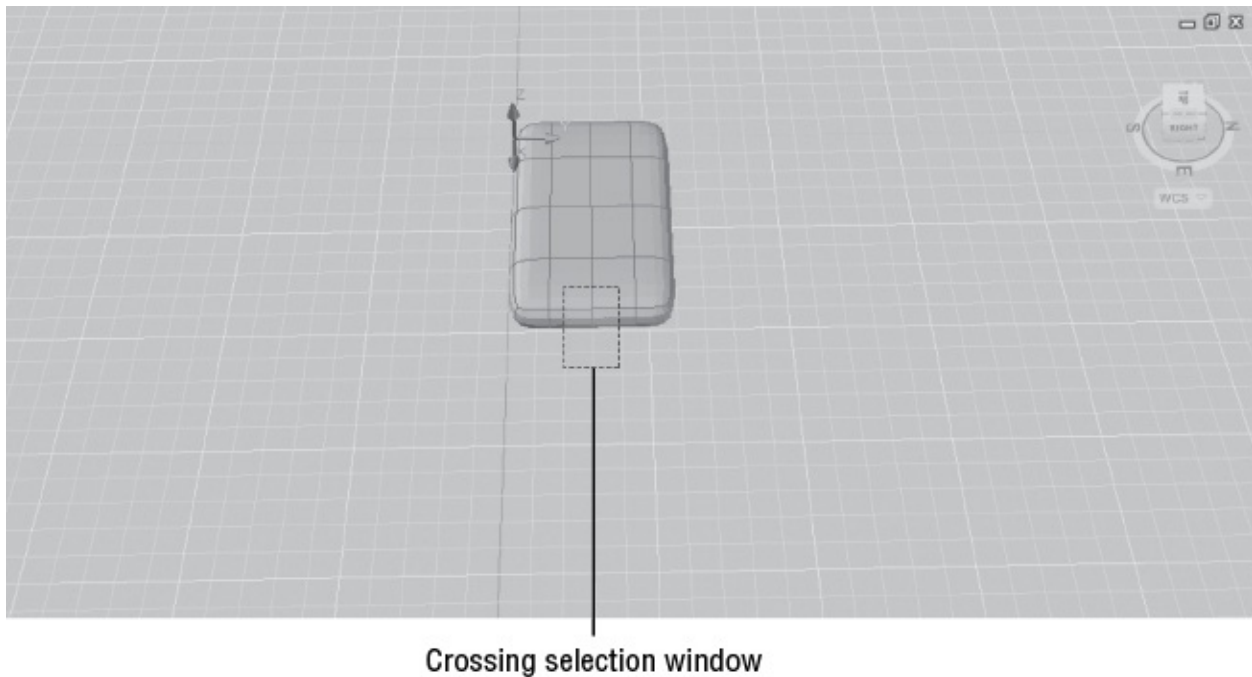

FIGURE 23.8 Change the view of your model to be able to work with hard-to-reach areas.
1. Use the ViewCube and Pan tools to adjust your view so that it looks similar to Figure 23.8. This view will allow you to easily select and “pull” some of the faces that will become the front and back of the surfboard.
3. Hold down the Ctrl key, and then click and drag a crossing selection window over the middle faces at the front edge of the box, as shown previously in Figure 23.8. The faces are highlighted, and you see the XYZ gizmo.